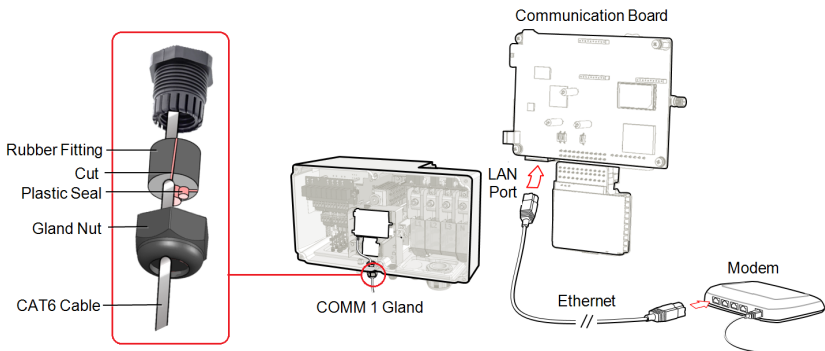

Figure 31: Inserting the Ethernet (CAT6) cable
- Connect the Ethernet connector to the RJ45 port on the COMMUNICATION board as shown in *Figure 31*.